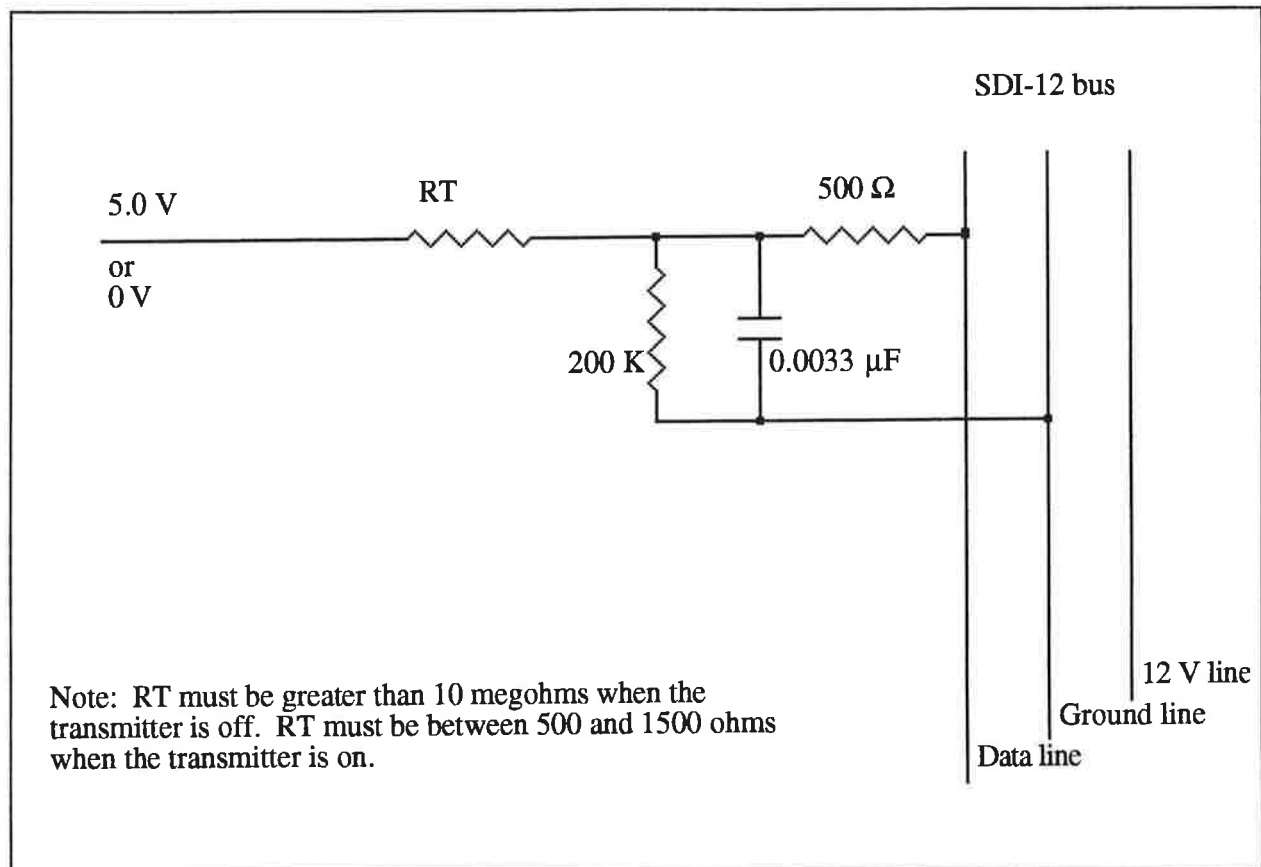

Figure 2. Equivalent circuit
When an SDI-12 device has its transmitter on, its direct current (DC) source resistance must be greater than 1000 ohms and less than 2000 ohms. When any SDI-12 device's transmitter is off, including during a low-power standby mode, the DC resistance to ground must be 200K. If an SDI-12 sensor does not use the 12-volt line for power, its data line resistance to ground while powered down must be 200K. Figure 2 shows an equivalent circuit.